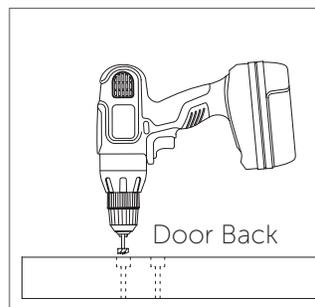

Figure 4
7. Turn the door over and using a 1-1/8" Forstner bit*, drill a 7/16" deep hole into each pilot hole (Figure 4).